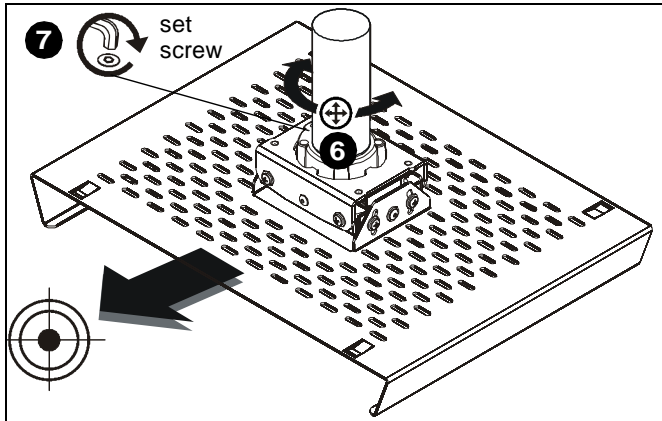

Figure 4
- Turn RPAX1 sleeve clockwise or counterclockwise until the front of the RPAX1 is facing target. (See Figure 4)
- Tighten set screw. (See Figure 4)